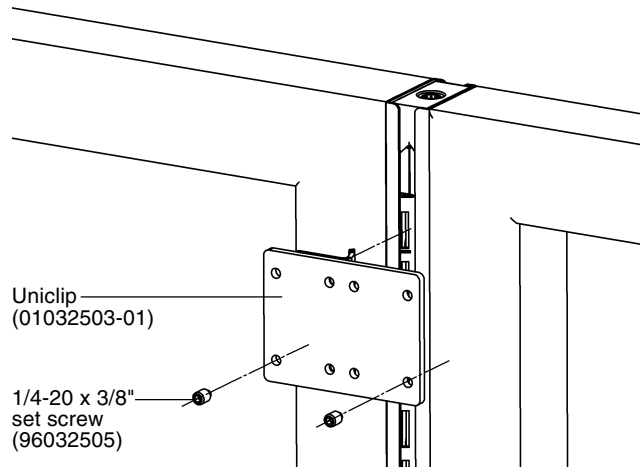

Figure 1
1. Install Uniclip into hanger frame at frame joint at desired height. Make sure clip is securely seated in frame (Figure 1).
2. Install each of the two 1/4-20x3/8" set screws provided into a tapped hole on either side of the clip. The set screws can be installed in either the upper or lower set of holes in the outside corners of the Uniclip, depending on the desired location of the D-ring or other component to be mounted on the clip. Tighten set screws until clip is parallel to Ultra Frame joint. (Figure 1).